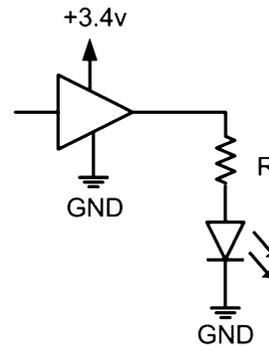

Fig. 3.41
3.4.4 For the LED driver configuration shown in Fig. 3.41 where an output of HIGH on the driver will turn on the LED, calculate the value of the resistor (R) in order to set the LED forward current to 5 mA. The LED has a forward voltage of 1.9v.